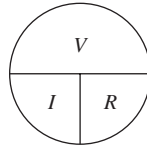

Figure F-2 Ohm's law circle.
The current (I) in a complete circuit is proportional to the applied voltage (V) and inversely proportional to the resistance (R) of the circuit (see Figure F-2).